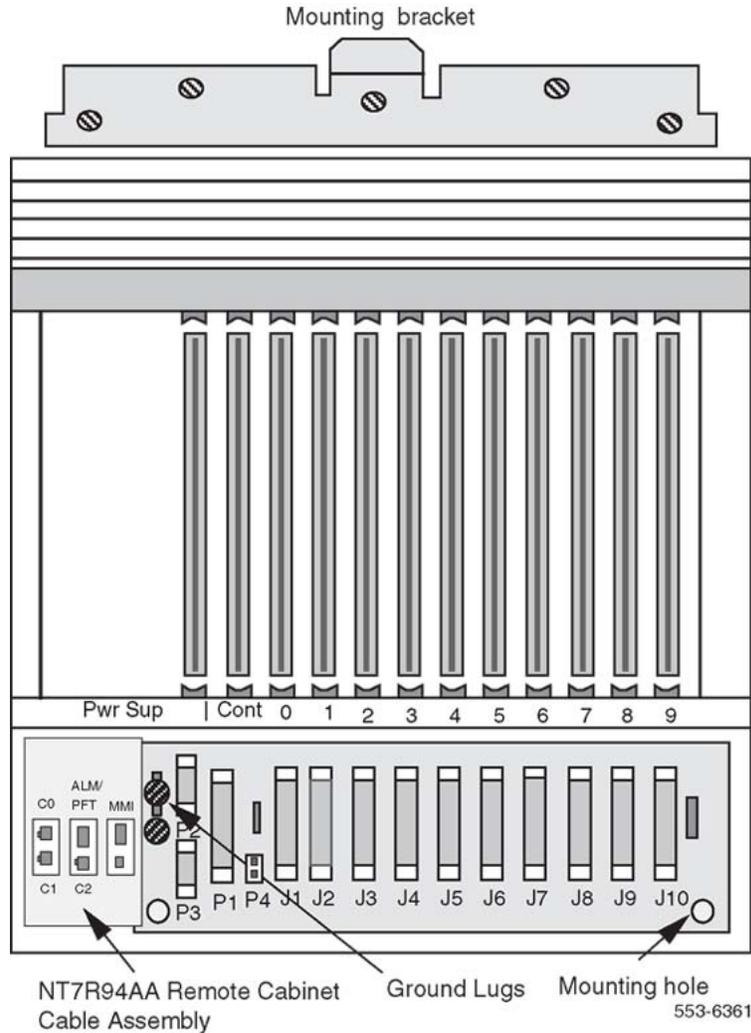

Figure 16: Carrier Remote IPE cabinet
2. Level and install the mounting bracket on the wall as shown in Figure 16: Carrier Remote IPE cabinet on page 92.
The slot is located at the top center of the cabinet as shown in Figure 16: Carrier Remote IPE cabinet on page 92.
See Figure 16: Carrier Remote IPE cabinet on page 92 for screw hole locations.
Figure 16: Carrier Remote IPE cabinet on page 92 shows the Carrier Remote IPE cabinet with the mounting bracket and the mounting holes. It also shows the ground lugs for ground connections.
Refer to Figure 16: Carrier Remote IPE cabinet on page 92 for card slot positions in the shelf.